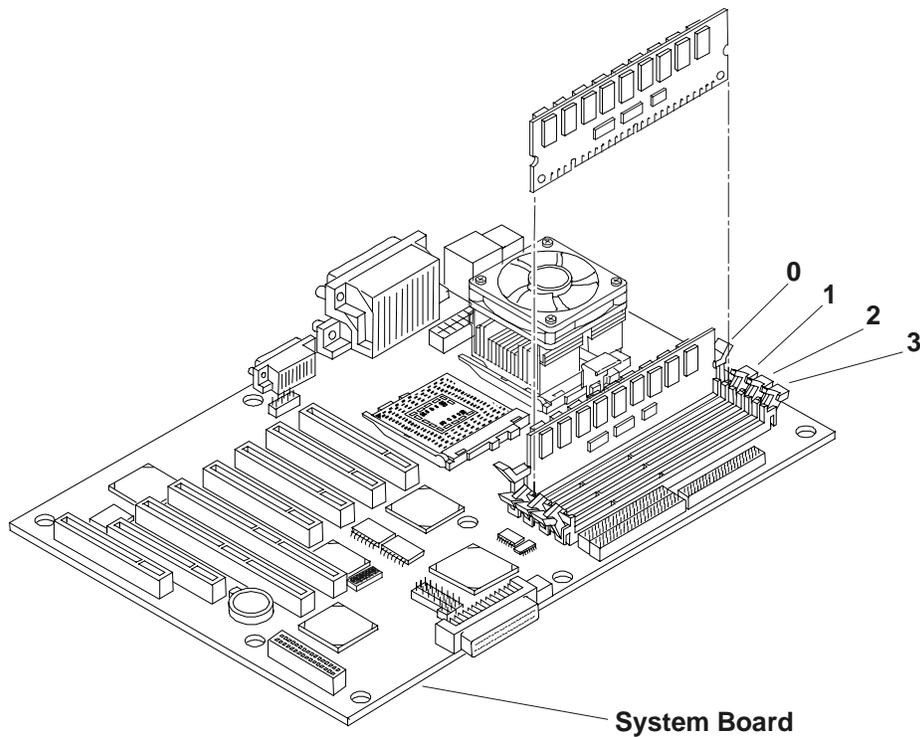

Figure 4-4. DIMM Insertion
11. Holding the DIMM at 90 degrees to the system board, press the DIMM fully into the slot until the retaining latches close. See Figure 4-4.